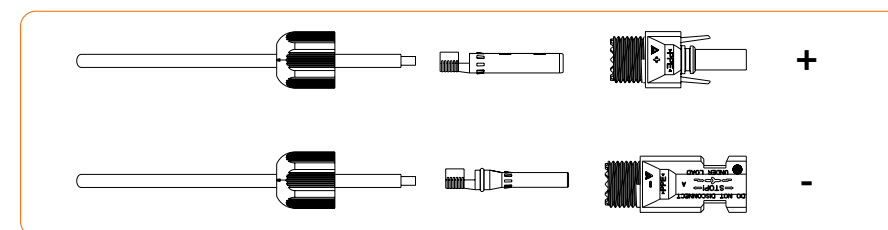

Figure 4-11
- ③ Disassemble the connector in the accessory bag, as shown in Figure 4-11: